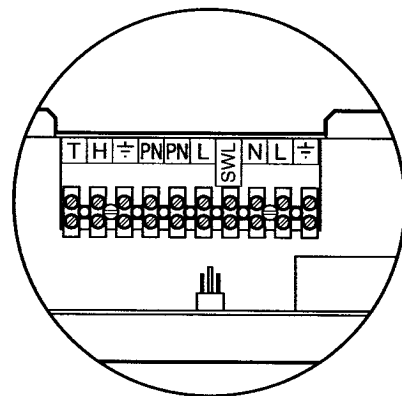

Fig. 17
6. Connect live, neutral, earth, and switched live to L, N, \div & SL of the terminal strip. The pump live, neutral and earth should be connected to PL, PN & \div of the terminal strip (Fig. 17).